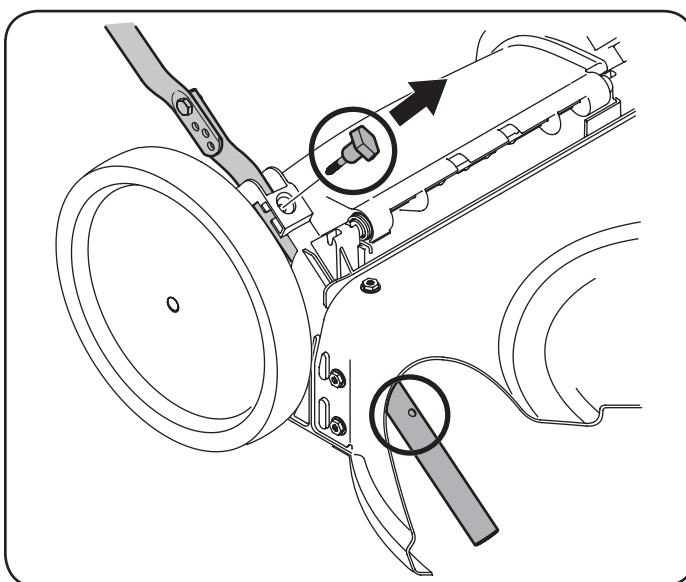
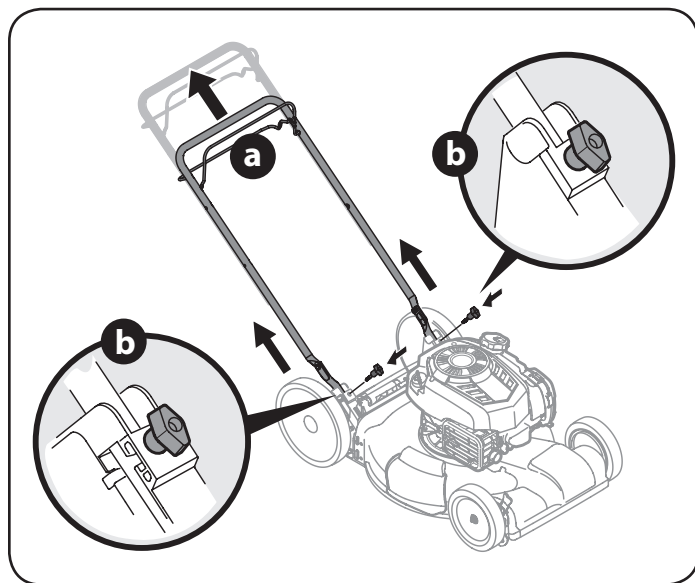

Figure 3
Figure 4
2. Remove T-bolts from the handle brackets as shown in Figure 3.
- Pull upward on the handle until holes in lower handle (shown in Figure 3 deck cutaway) line up with holes in handle bracket. See Figure 4.
- Insert the T-bolts removed in Step 2 through the handle brackets and lower handle and tighten securely to secure the handle in place. See Figure 4.